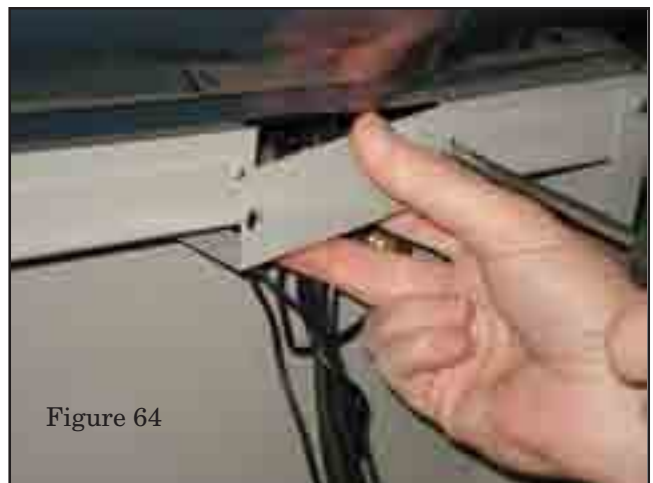

Figure 64
11. Replace the strain relief access panel, close and secure the control box, and replace the front and top boiler panels. Restore power and check out limit switch operation per boiler installation instructions. See Figure 64.